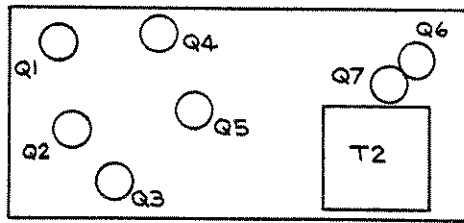

FIGURE 3
9.2.1 Check for the 1.5 AC voltage between Terminals P+ and P-. If not present, turn POWER Switch off and on several times, pausing 5 seconds in OFF each time; occasionally the oscillator is difficult to start, especially in cold weather. If this fails, replace Oscillator transistors Q5 and Q6, the positions of which are shown in Figure 3. If there is still no AC, replace Regulator transistor Q7.